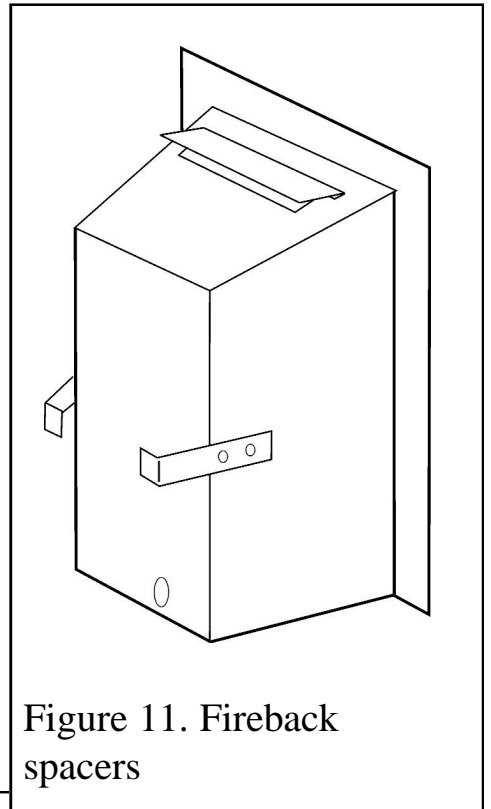

Figure 11. Fireback spacers
7. The appliance is supplied with two fireback spacers. **Do not fit the fireback spacers if the fire is to be installed into a precast or clay flue block system as in section 4.2.3.** These should extend backwards to ensure sufficient clearance from the back of the fireplace. Remove the label and retaining screws from the rear sides of the hotbox. Position the fireback spacer as shown in figure 11. Secure the fireback spacers using the screws removed previously and the two supplied with the fire.